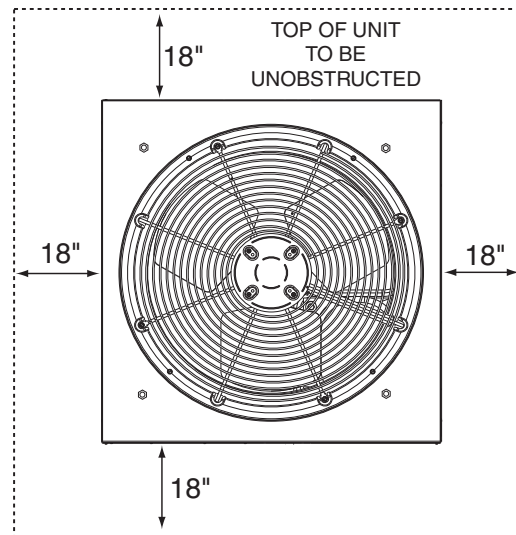

Figure 2. Clearance Requirements
- Sufficient clearance for unobstructed airflow through the outdoor coil must be maintained in order to achieve rated performance. See Figure 2 for minimum clearances to obstructions.
- Clearances must be in accordance with those shown in Figure 2 (page 6).